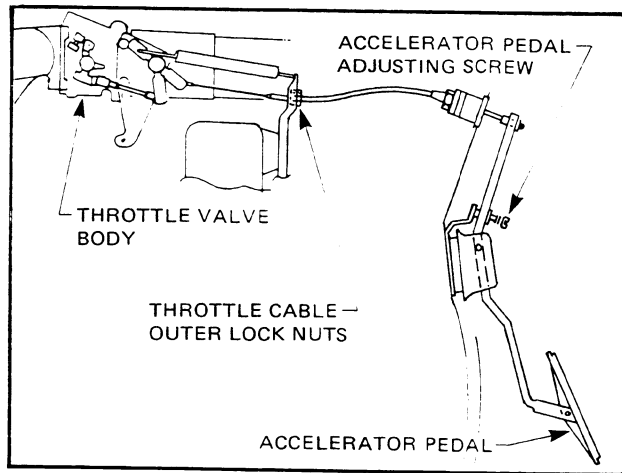

Figure 6C-58
4. Adjust screw on pedal lever so that the pedal has no free play, but the cable is taut and idling speed is not affected. (Fig. 6C-58).